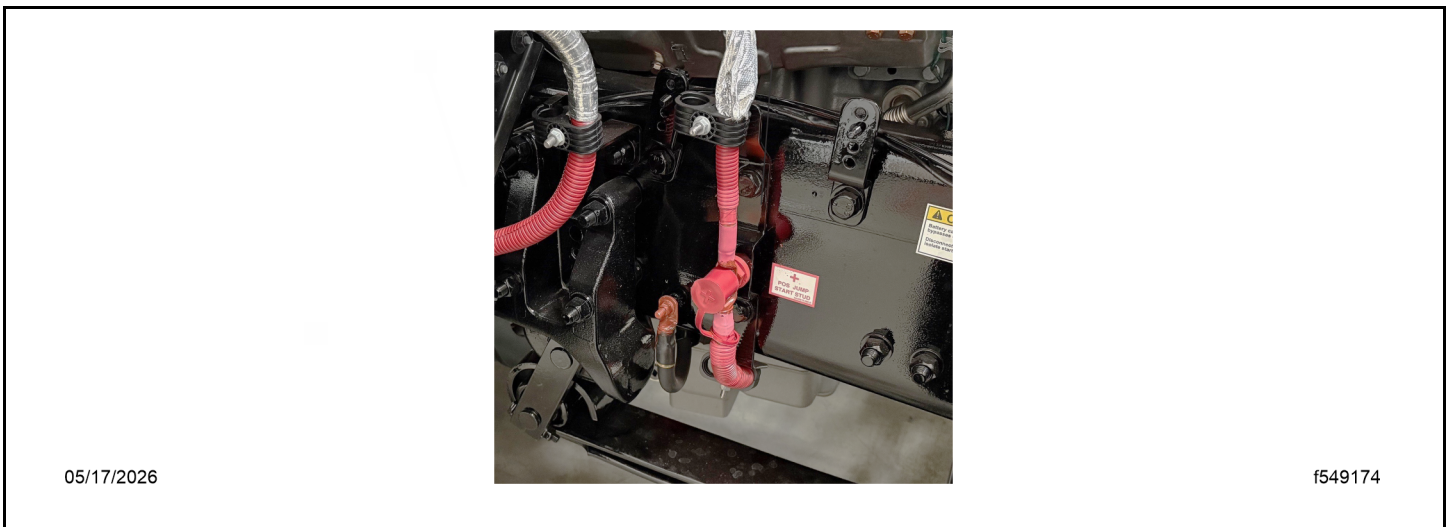

Fig 143, Isolated Battery Junction with Jump-Start Post
5. Locate the isolated positive (+) battery stud mounted on the frame behind the front wheel. See Fig. Fig. 143.